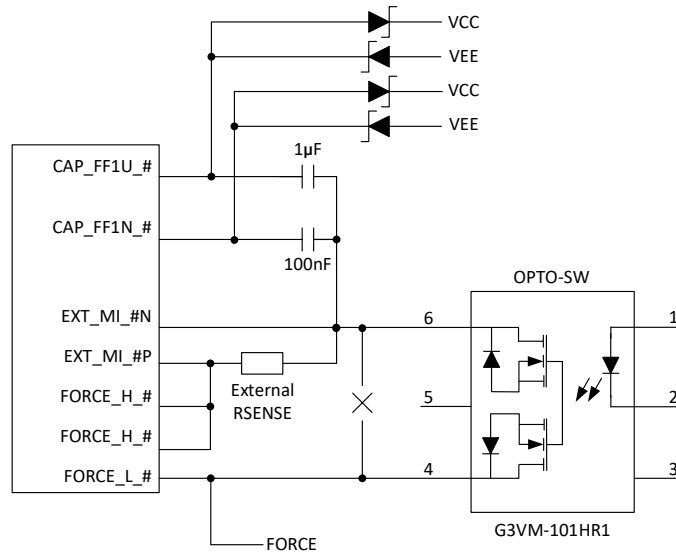

FIGURE 7: FEED FORWARD CLAMPING DIODES AND OPTIONAL OPTO-SW
Note: The Whitney datasheet recommends the use of an OPTO-SW to disconnect the feed-forward capacitors from the low-current outputs FORCE_L_0 and FORCE_L_1 when using the 2 μ A and 20 μ A current ranges (refer to Figure 7). This will significantly reduce the Measure Current and Force Current settling time. Failing to follow these recommendations can cause a transient high voltage across the pins and damage the Whitney device.
1. Close OPTO-SW to connect feed-forward capacitors to the FORCE_L_# output (refer to Figure 7)
9. Select the recommended COMP cap for the desired current range (refer to Figure 7)
11. Select the recommended FF cap for the desired current range (refer to Figure 7)
3. Close OPTO-SW to connect feed-forward capacitors to the FORCE_L_# output (refer to Figure 7)
2. Select the recommended FF cap for the desired current range (refer to Figure 7)
3. Select the recommended COMP cap for the desired current range (refer to Figure 7)
2. Close OPTO-SW to connect feed-forward capacitors to the FORCE_L_# output (refer to Figure 7)
11. If the current range is 2 μ A or 20 μ A, open OPTO-SW to disconnect feed-forward capacitors from the FORCE_L_# output (refer to Figure 7)